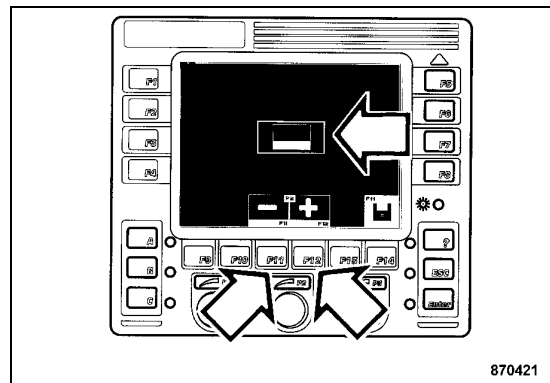

Fig. 86
- Use keys "F11" or "F12" to choose the desired printer language (Fig. 86).